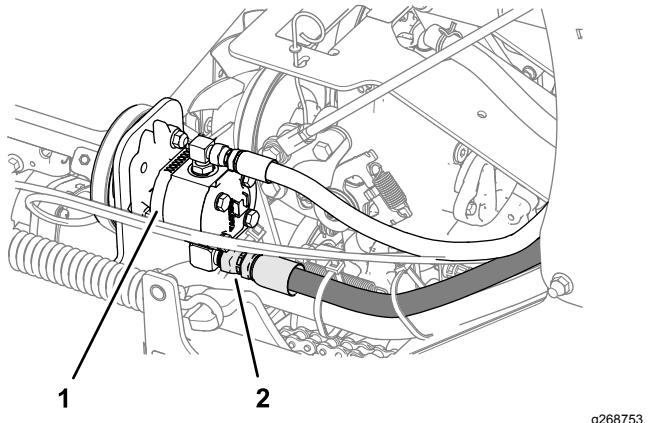

Figure 54
6. Loosen the suction hose at the pump fitting, clean around the pump fitting, and allow oil to drain (Figure 54).